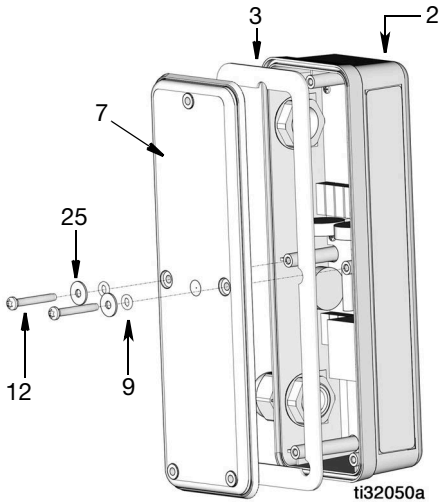

FIG. 11
16. Tighten cord grip (19).
18. Install seal (3) in PAC cover (7) (FIG. 11).
19. Install cover over PAC enclosure (2). Verify all screw holes in cover and enclosure are correctly aligned (FIG. 11).
20. Install two o-rings (9), washers (25) and screws (12) to secure the cover to the PAC enclosure (2) (FIG. 11).